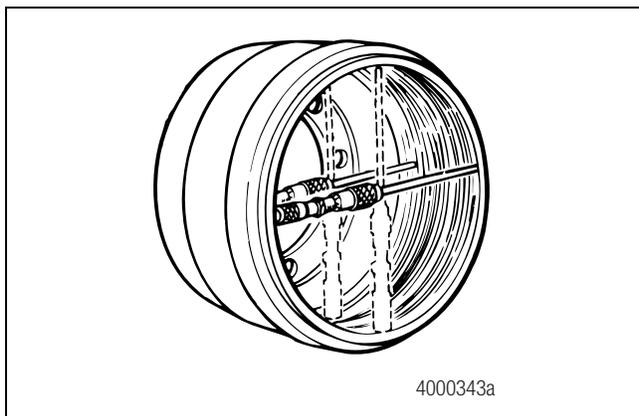

Figure 3.8
- Measure the inside diameter of the drum in several locations with a drum caliper or internal micrometer. Figure 3.8.